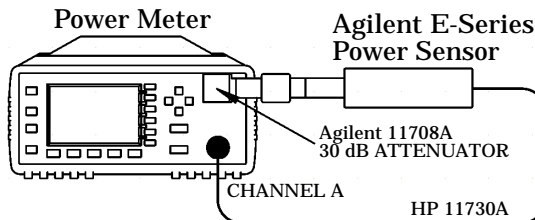

Figure 2-5: Sensor Functional Test Setup with Attenuator
6. Connect the 30 dB attenuator as shown in Figure 2-5.